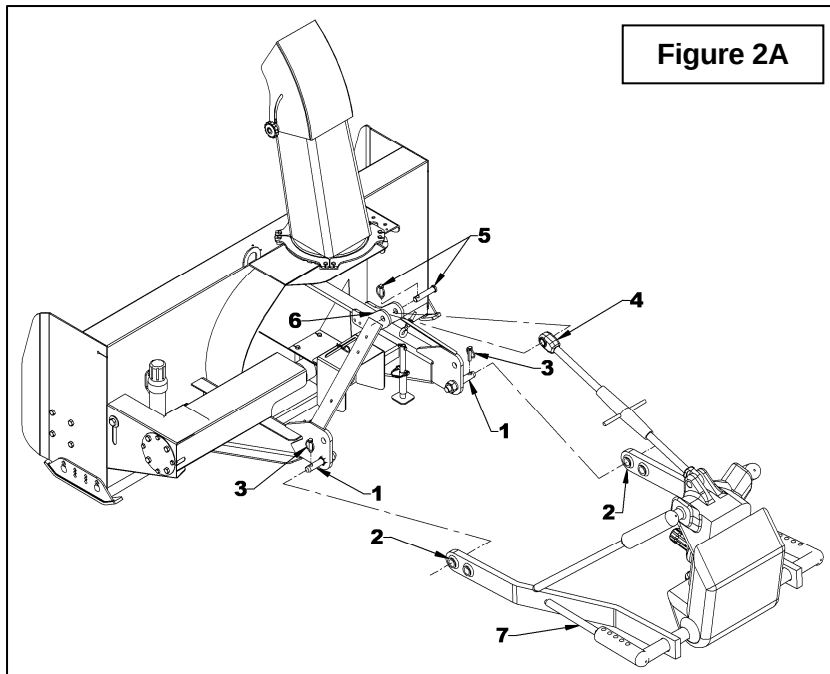

Figure 2A
5. **Figure 2A:** Attach tractor lower links (item 2) to the hitch pins (item 1) and secure with the linchpins (item 3).
6. **Figure 2A:** Attach the tractor upper link (item 4) between the upper attaching plates (item 6) using the tractor pin and linchpin (item 5 – not included).
7. **Figure 2A:** Adjust the snowblower using the tractor upper link (item 4) as to bring the snowblower parallel to ground level.
8. **Figure 2A:** Set the tractor anti-sway turnbuckles (item 7) so the snowblower does not sway. Be sure there is no contact with the tires.